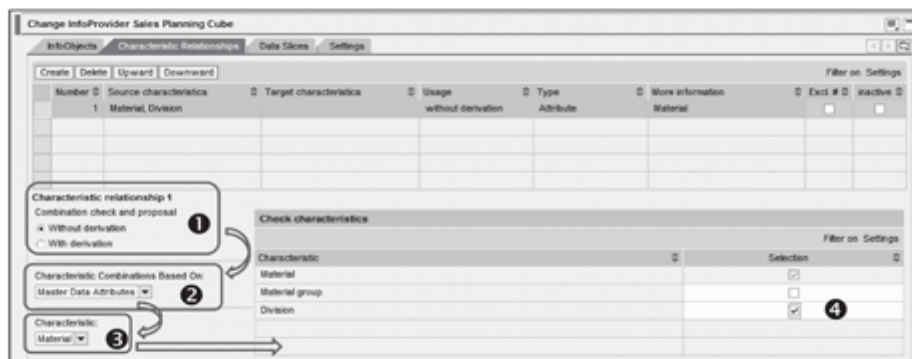

Figure 12.18 Define Characteristic Relationship Without Derivation
6. Now you must select the type of characteristic relationship you want to create. The options here are Without Derivation, which is used only for check and proposal needs, or With Derivation, which is used if you want to derive values. In this case, we create a characteristic relationship to check the valid combinations of product (defined using InfoObject Material BW_PROD) and product range (defined using InfoObject Division 0DIVISION). Select WITHOUT DERIVATION, as shown in ❶ of Figure 12.18.
7. The next step is to select the base for the characteristic relationship (❷). The drop-down list provides four different options on which you can build the characteristic relationship:
In this example, we select **MASTER DATA ATTRIBUTES** as the base for the characteristic relationship (❷ of Figure 12.18).
8. Select the master data characteristic to be the base for the characteristic relationship (❸).
9. The right side of the screen displays all of the attributes of the selected master data. Select the characteristic attributes that need to be validated under this characteristic relationship (❹). Note that the base master data characteristic material is selected by default.
In this example, we want to check and propose the valid combinations of product (defined using InfoObject Material `BW_PROD`) and product range (defined using InfoObject Division `ODIVISION`). Select **Division** under the **SELECTION** column, as shown in ❹ of Figure 12.18.